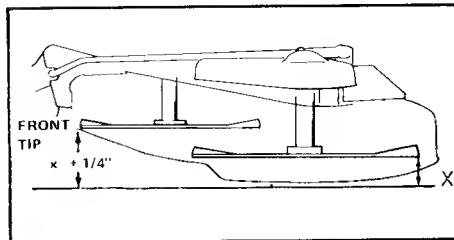

Figure 42. Levelling Mower - 42"
4. Measure the distance from the front tip of the center blade to the ground, and note that measurement. (See figure 42.)
5. Measure the distance to the ground from the rear tips of the left and right blades. Compare these measurements with the measurement from the front tip of the center blade. The front tip of the center blade should be  $1/4$  inch (6 mm) higher than the rear tips of the side blades (figure 42).